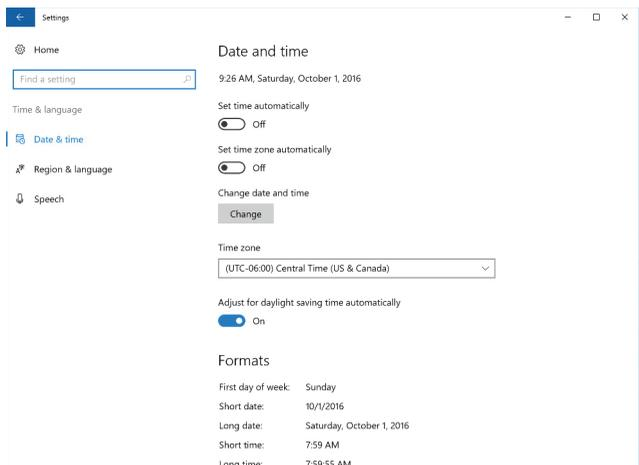

Figure 117. ‘Time & language’ screen. Settings for Date and time can be modified from this screen.
- c. Touch the **Time & language** button on the ‘Windows Settings’ screen to open the ‘Time & language’ screen (Figure 117).